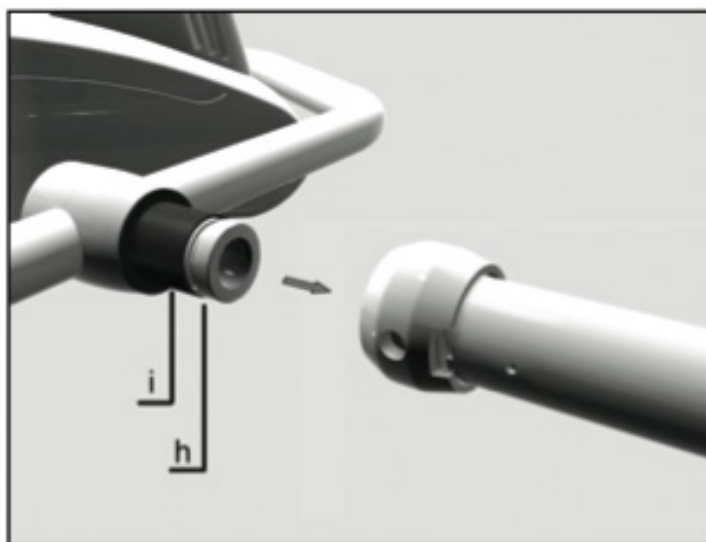

Figure 3
5. Make sure the plastic bearing (i) is on the yoke and there is grease in the groove (h). (The connectors are not shown in figure 3.)